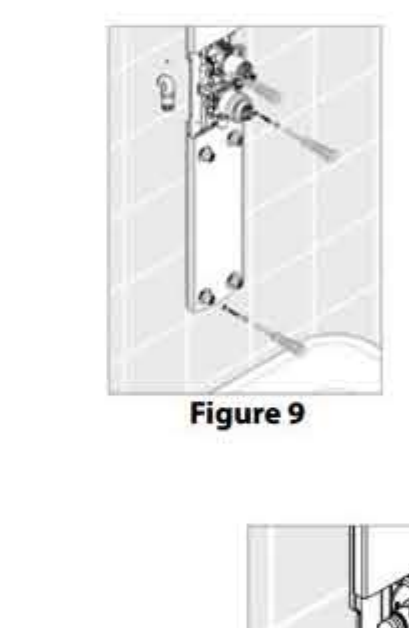

Figure 8
- Install the gray plastic insert. (See Figure 8.)
- Insert the top screw through the front of the panel, the washer and the insert. Screw it into the anchor. (See Figure 8.)